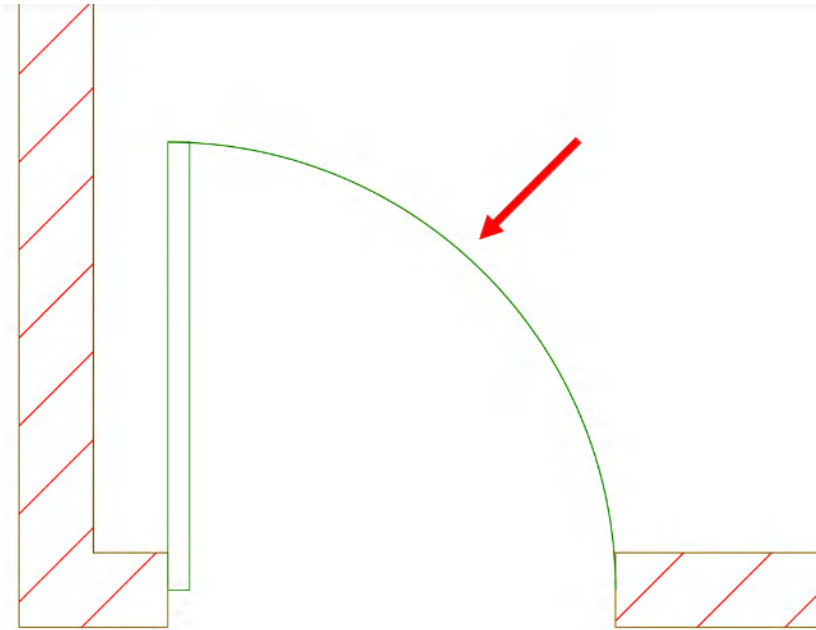

Figure 11.28: The Door-DYN block in the drawing
17. The door block in the drawing is now your dynamic door block, **Door-DYN**. Select it and use the **Layer** dropdown on the **Home** tab on the ribbon to ensure it is on the **Doors** layer. Also, make **Doors** the current layer to ensure that any further blocks inserted will go on the appropriate layer. The **Door-DYN** block should look as it does in *Figure 11.28*.